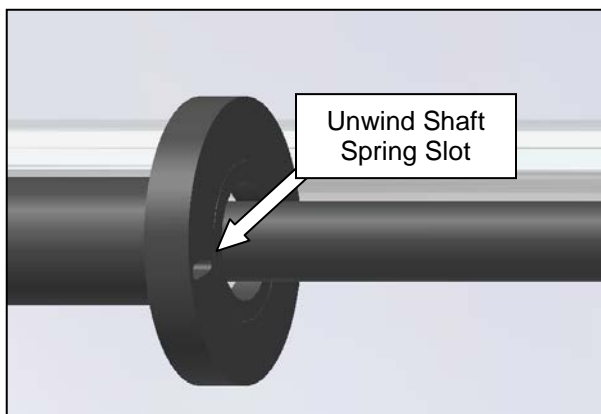

Figure 3-373. Inserting the Unwind Spring
- Slide the unwind shaft into position. The exposed end of the spring is to be inserted into the machined slot on the back side of the unwind shaft flange (Figure 3-373).